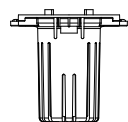

Figure 13.1h
5. Then lift the black screen to remove it from the filter canister, Figure 13.1h. Clean the screen with water, using pressure from the inside of each screen.